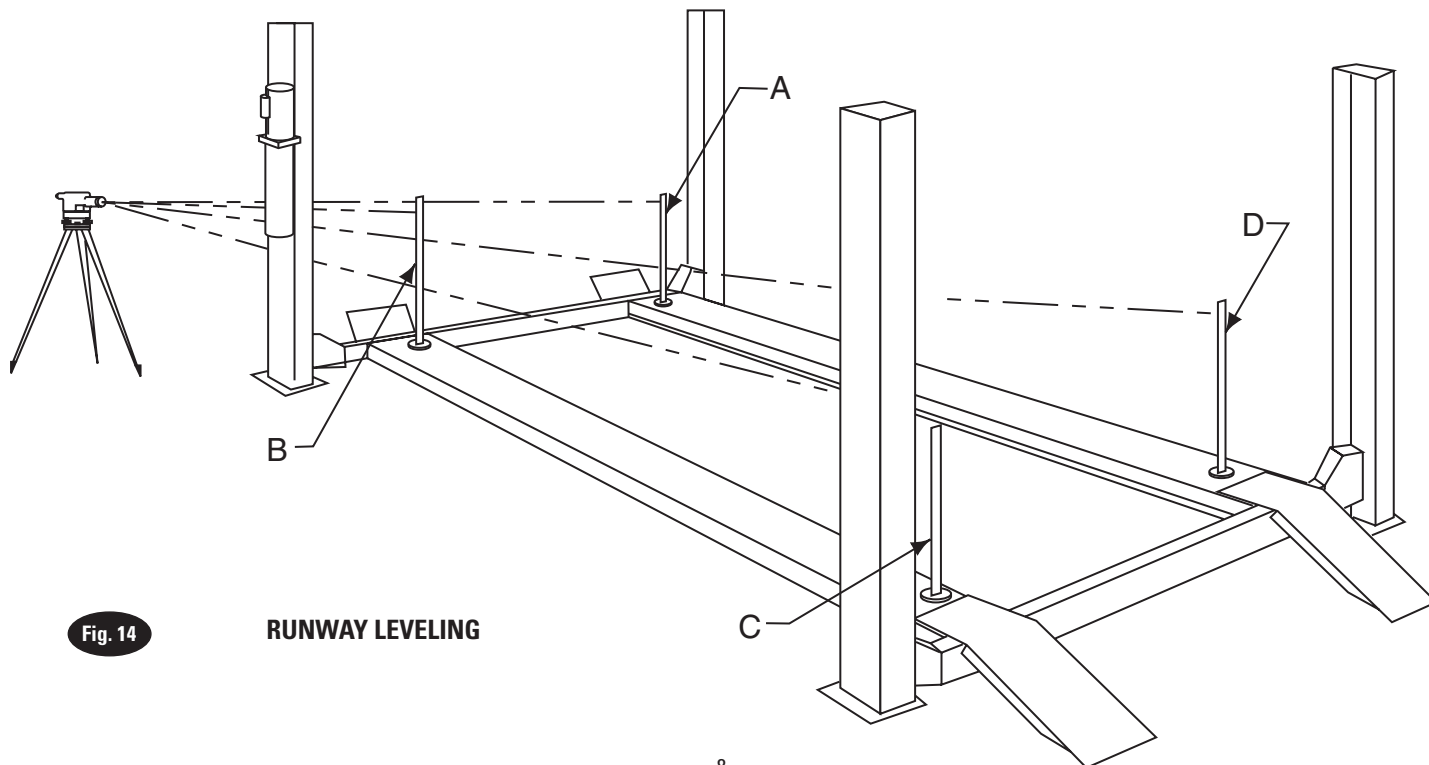

Fig. 14
- First place the Level target at the highest corner of the lift. Place it on the runway center line within 6" (152mm) of yoke tube, whichever one is located over highest point. This will be referred to as target "A" position. Beginning with target "A" position, Fig. 14, sight the Level to the target and mark the number or the graduation on the inch scale of the target that aligns to the crosshairs of the Level, Fig. 15.
- Next, move the target and place it on the runway at point "B", Fig. 14. Rotate the Level and focus on the target scale. Adjust the column at "B" using shims under base plate, Fig. 13, until the cross-hairs of Level align to reference mark on the target scale. Repeat for points C and D.